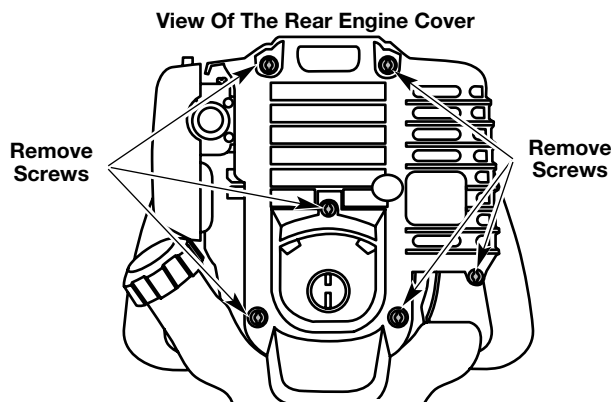

Fig. 38
1. Remove the six (6) screws on the back of the engine cover with a Flat-head or T-25 Torx screwdriver (Fig. 38).
4. Remove the engine cover (Fig. 38).
1. Stop the engine and allow it to cool. Remove the six (6) screws on the back of the engine cover with a Flat-head or T-25 Torx screwdriver (Fig. 38).